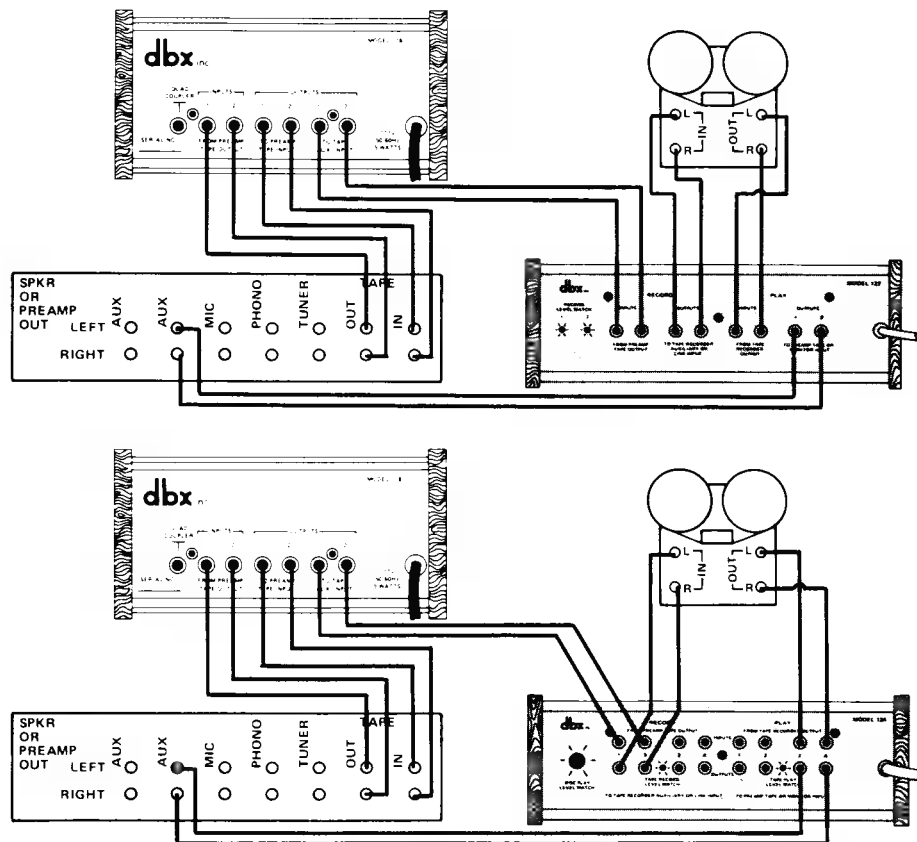

Fig. 18 — Using the dbx 118 in conjunction with a dbx 122 or 124 Tape Noise Reduction System
1. Connect your system as shown in Figure 18.